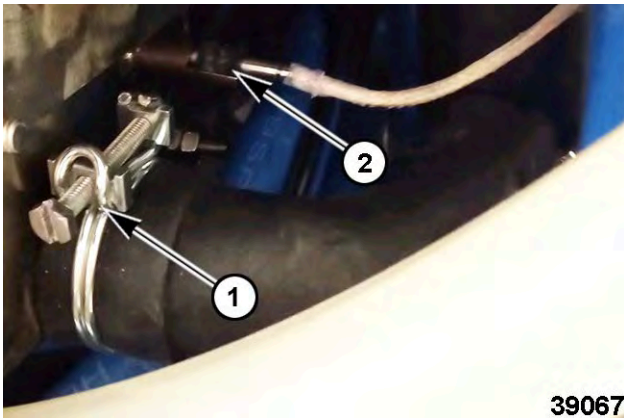

Fig. 49
Remove drain hose (1, Fig. 49) and completely drain steam generator.
6. Disconnect temperature probe (2, Fig. 49).